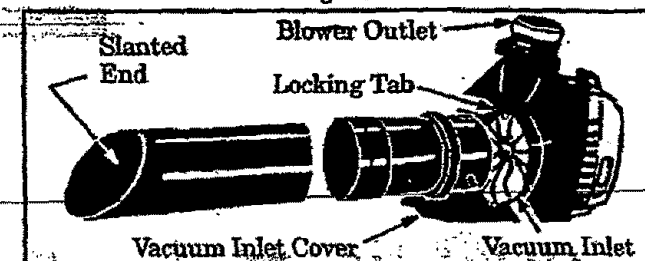

Figure 6
3. Hold open vacuum inlet cover and align the grooves on the upper vacuum tube with the locking tabs inside the vacuum inlet. Figure 6. Insert the upper vacuum into the vacuum inlet; twist the upper vacuum tube clockwise until parts snap together.
4. Assemble the vacuum tubes by aligning the slanted end of the lower vacuum tube with the blower outlet as shown in Figure 6. Push the two tubes together until they are snug. Figure 6.
**NOTE:** The bottom end of the lower vacuum tube is cut at an angle. Make sure slanted end of vacuum tube is aligned with blower outlet. Figure 6.